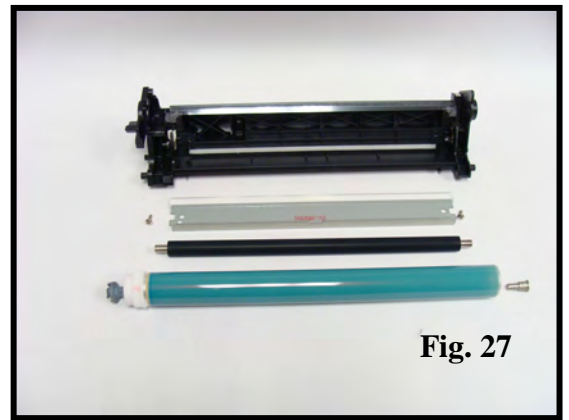

Fig. 27
27. Remove all waste toner from the waste bin. Ensure recovery blade is not damaged, replace if necessary. Clean or replace all components and reassemble in reverse order (Fig. 27).